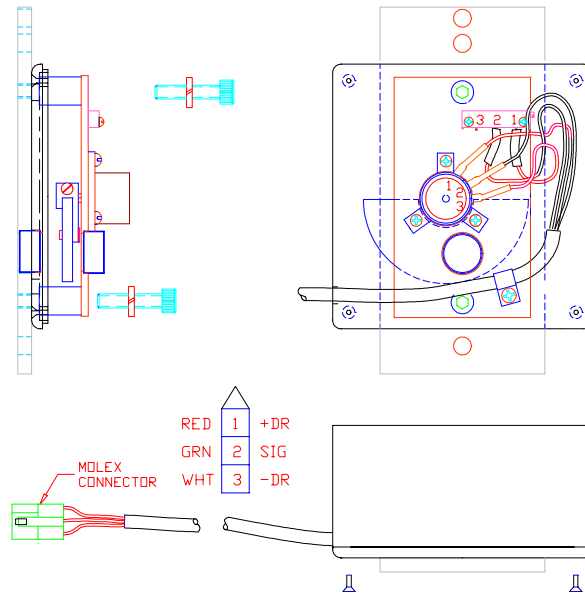
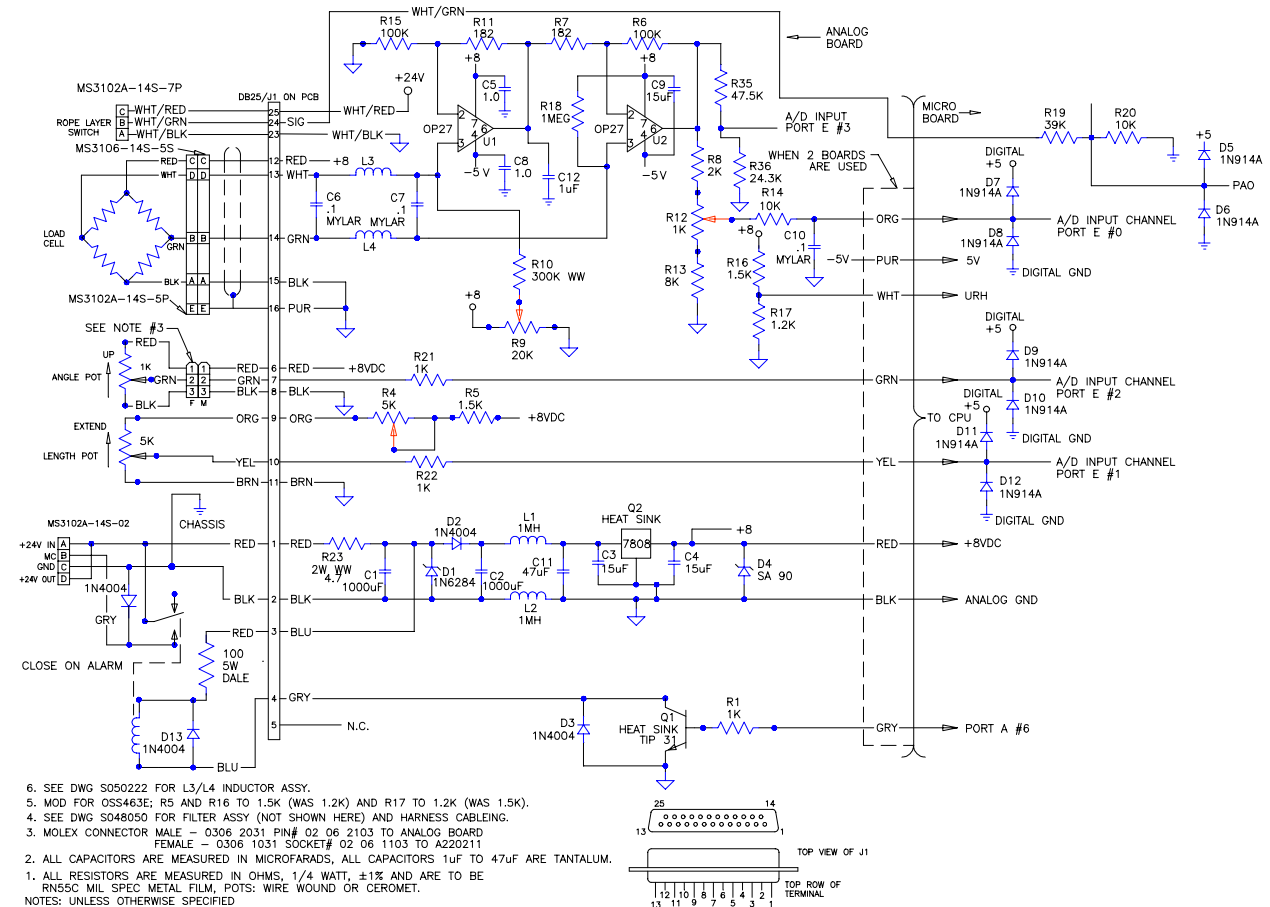

FIGURE 8: ANGLE SENSOR
FIGURE 9: CIRCUIT BOARD DIAGRAM
The angle signal is provided by the A12 pendulum unit (Figure 8).
If the angle reading does not change when the boom is raised or lowered, it almost always indicates that there is an open circuit in the angle channel wiring. (The pendulum is mounted on tape recorder grade bearings and very seldom hangs up.) Check out the wiring as shown in Figure 8 above and Figure 9 on page 20.
1. A constant reading of -30° or $+64^{\circ}$ is a broken +8VDC or a broken minus (-) VDC (ground) line. The break in the wiring could be inside the pot in the A12 case, the wiring inside the pendulum case, in the plugs connecting to the electrical harness, or in the soldering at DS25 plug. Refer to the Schematic Analog Board for Terminal Numbers, shown in Figure 9 on page 20.